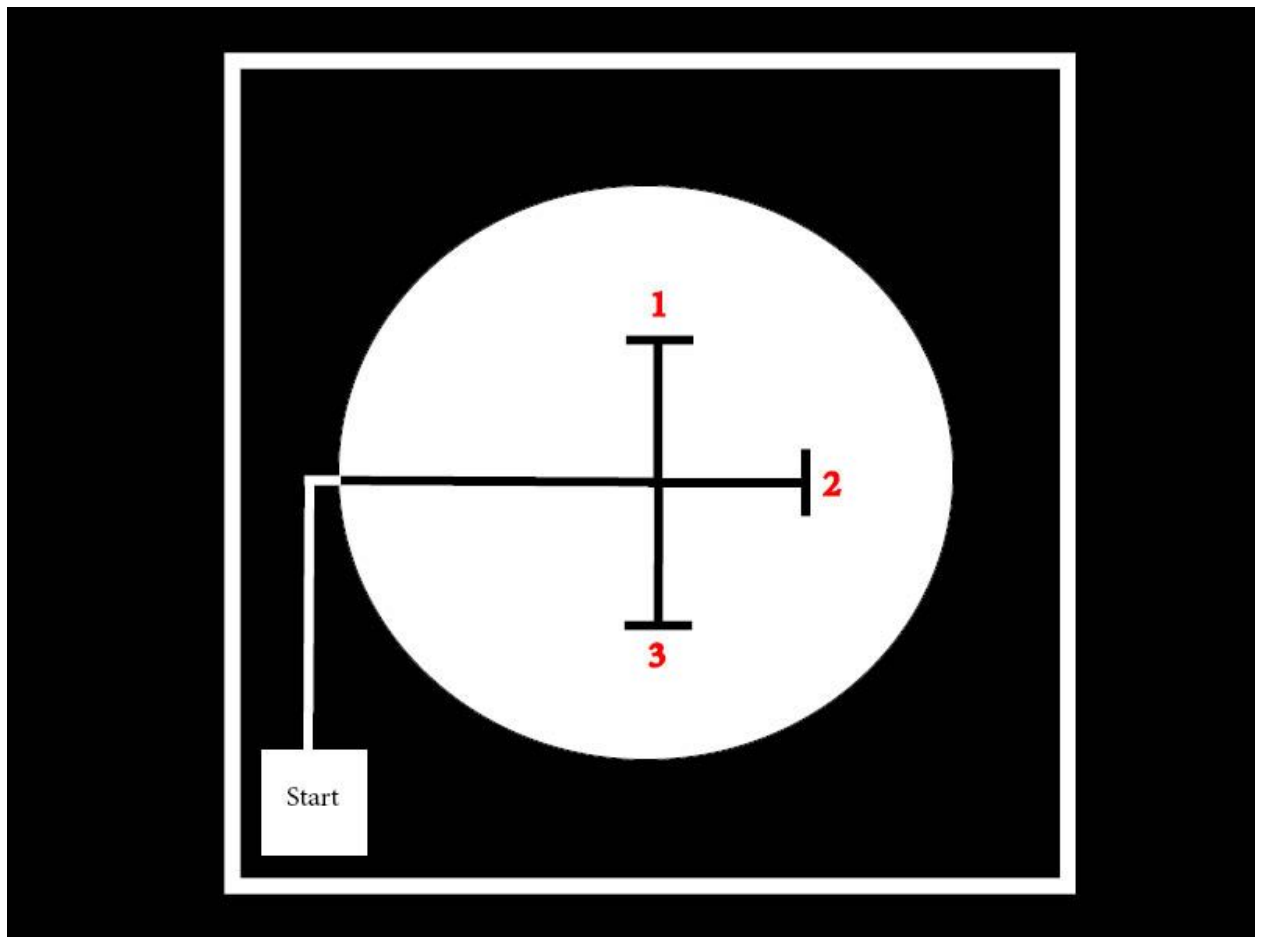

Figure 2: view of the black lines, start and end points
- **white rectangle (Figure 2 - marked as start)** at the outside area.
- At the outside area after bringing the object and placing the object at the **white rectangle (Figure 2 - marked as start).**